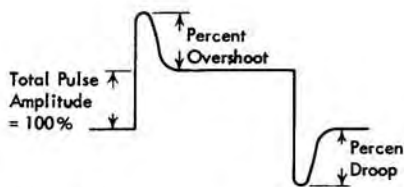

Figure 27. Pulse Droop and Overshoot
**Pulse Droop and Pulse Overshoot** are measured as a percentage of total pulse amplitude (Figure 27).